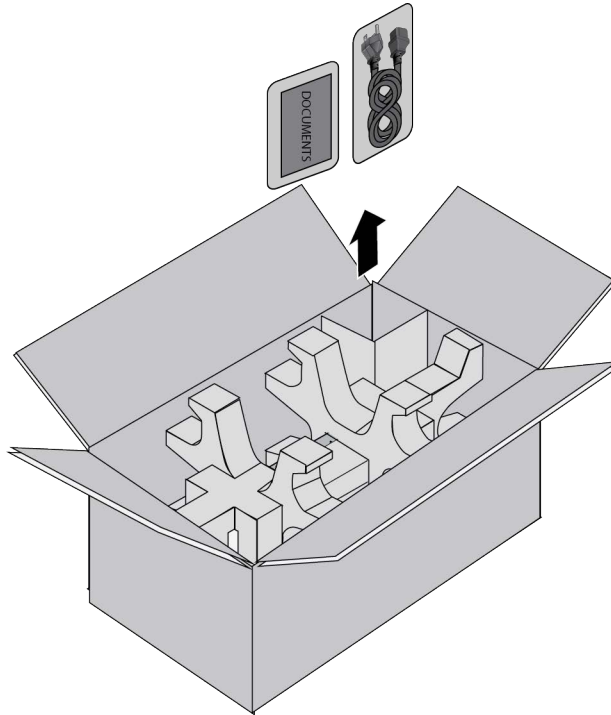

Figure 34. Removing the Power Cord and Documents from the Power Supply Shipping Box
1. Remove the power cord and any documents from the accessory box partition. Refer to Figure 34.